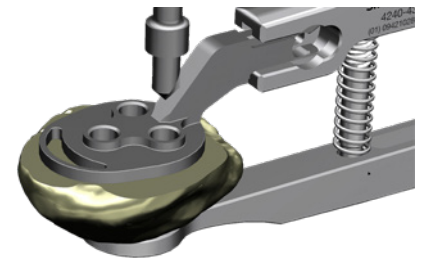

Figure 36
11. Select the appropriate diameter Resurfacing Patella Drill Guide and slide it onto the Patella Reamer Guide. Attach the Patella Reamer Guide Assembly to the reamed patella and tighten the reamer guide on the patella (Figure 36).
12. Use the Patella Peg Drill to drill the three pegs through the Patella Drill Guide until the drill bottoms out in the guide (Figure 36).